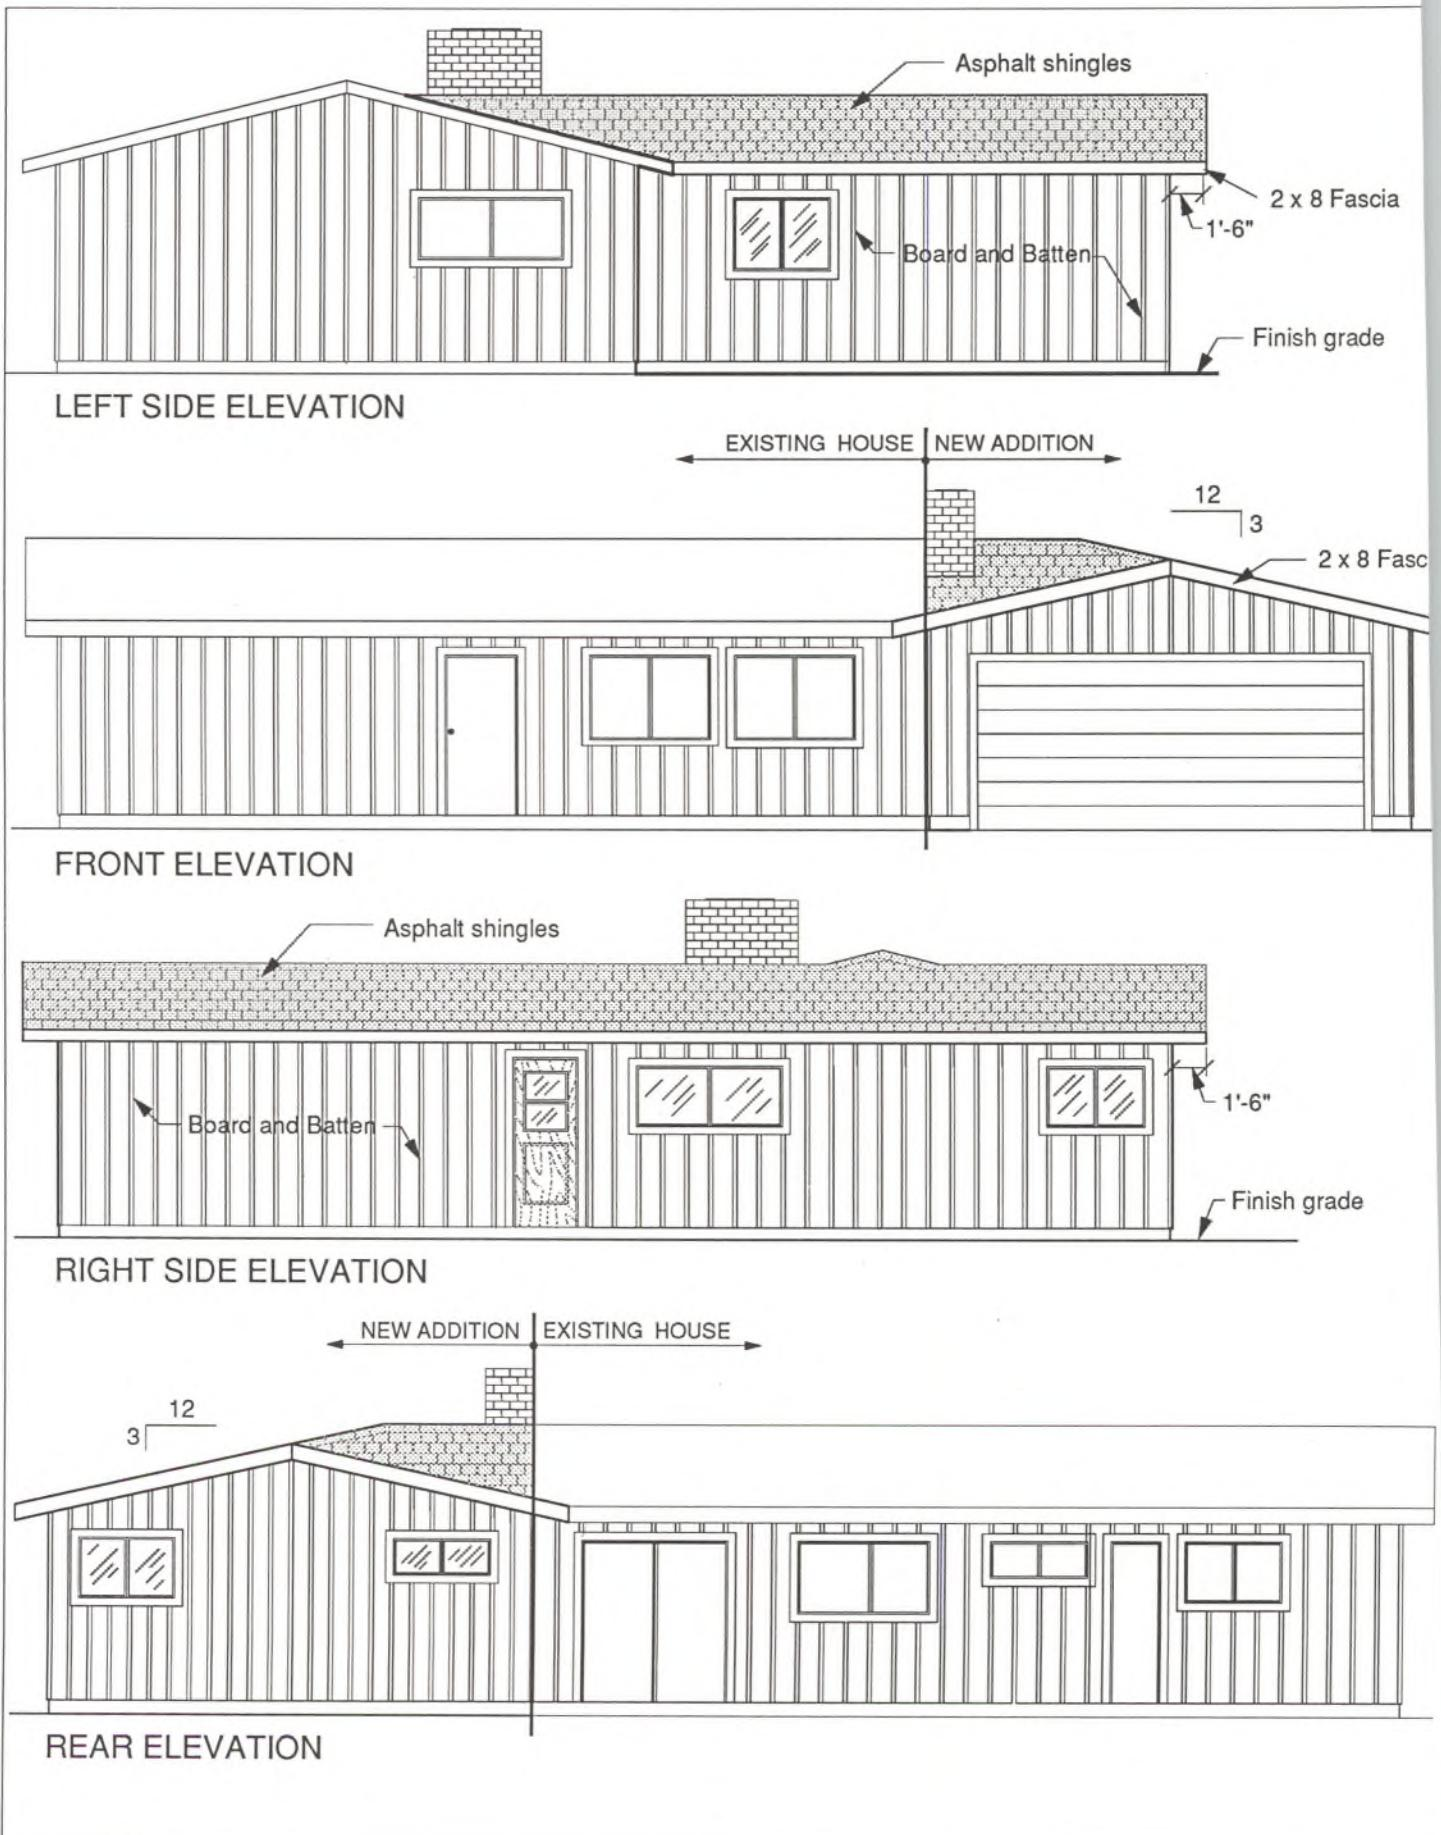

FIG. 29.5 Elevation views of an existing house showing a proposed addition.
1. Draw the new work accurately over the initial elevation drawing of the existing house. The lines used to represent the existing house should be lighter than those representing the addition. (See Fig. 29.5.)